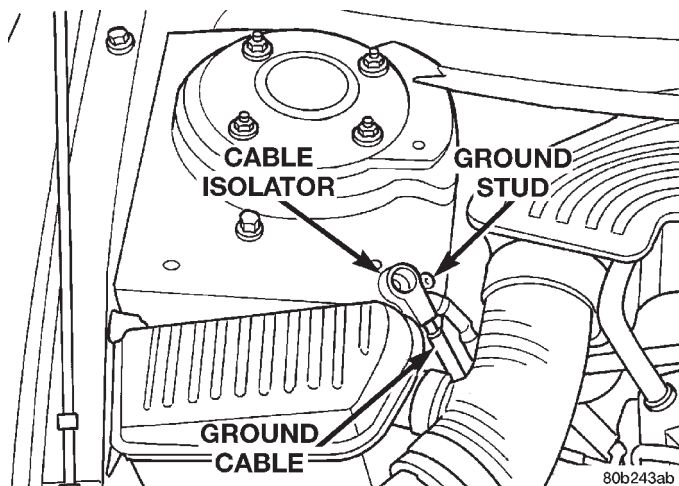

Fig. 36 Correctly Isolated Remote Ground Cable
(1) Remove the battery ground cable from the ground stud on the shock tower and isolate it cable by installing the cable isolator on the ground stud (Fig. 36).
(2) Raise the vehicle. See Hoisting in the Lubrication And Maintenance section of this manual.